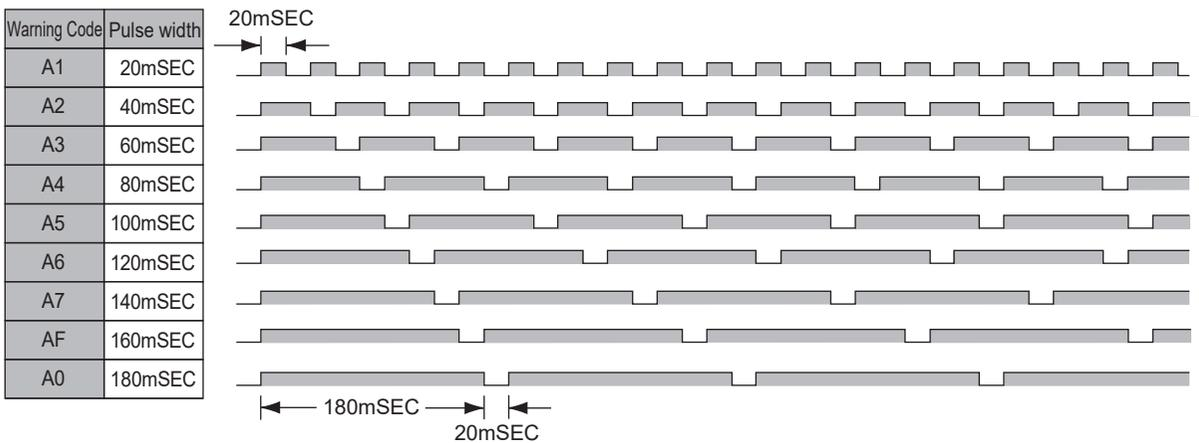

Fig. 39
When a warning occurs, a warning signal is output to the external Input / Output Connector A③ (terminal No. 20: WARNING). (Refer to Fig. 39.)